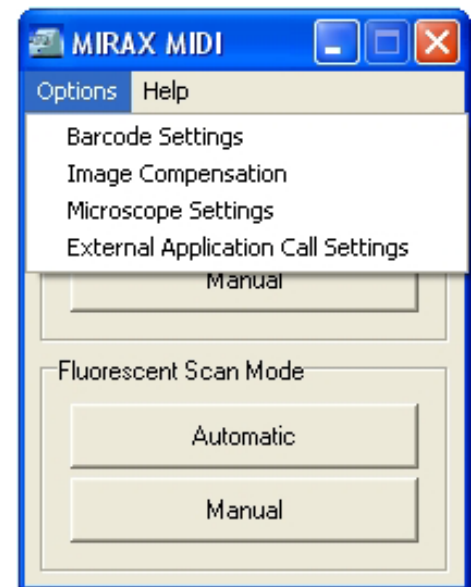

Fig. 6-7 Calling up the Compensation Dialog
For this purpose, a compensation image must be recorded first. This is done in the Image Compensation window. To call this window up, **Image Compensation** is to be selected under **Options** in the main window (see Fig. 6-7).
- To call up the *Image Compensation* window, select **Image Compensation** under **Options** in the main window (see Fig. 6-7).